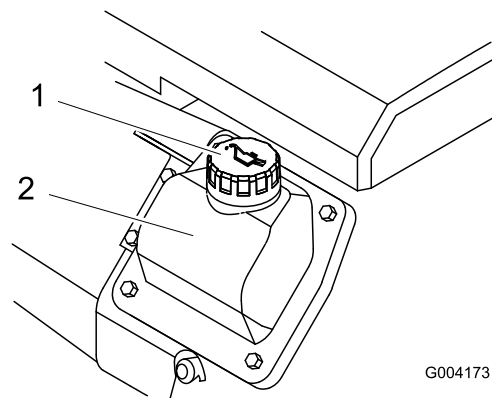

Figure 15
8. If the oil level is low, clean around the oil filler cap and remove the cap (Figure 15).